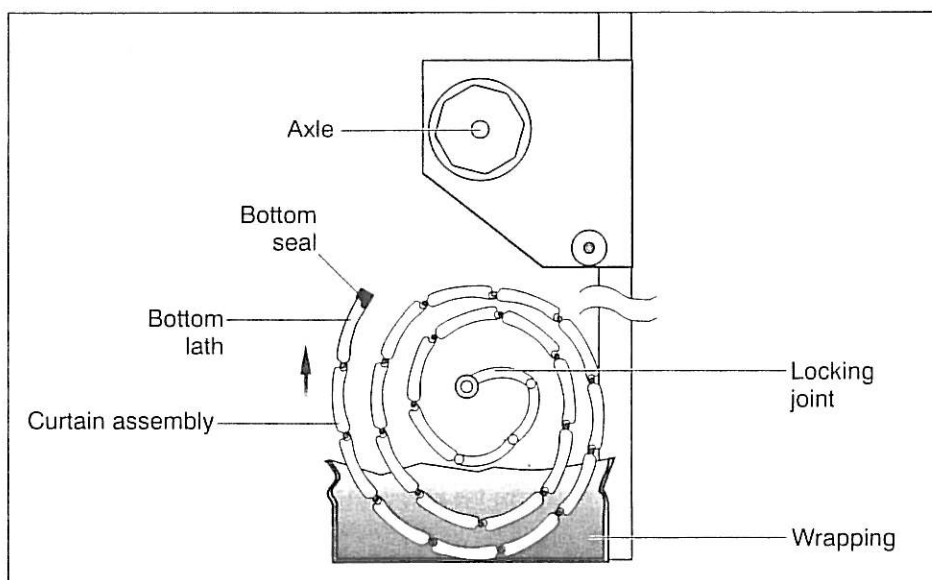

Fig 15
- 6.2 Carefully position the curtain assembly in the door aperture, below the axle as shown in Fig. 15. Slit the packaging to gain access to the curtain but leave some packaging to protect the curtain.